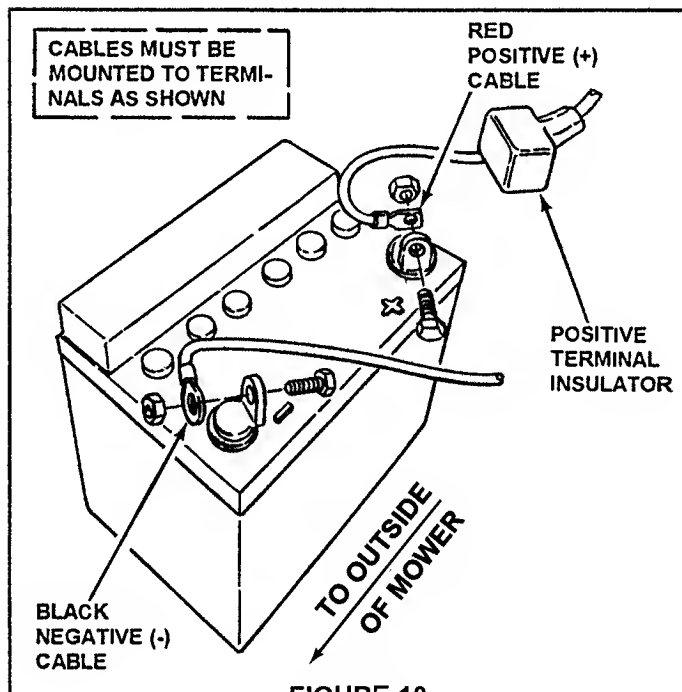

FIGURE 10
- Battery cables **MUST BE SECURED TO BATTERY TERMINALS** as shown in Figure 10, using the 1/4" screws and lock-nuts from the hardware bag.
- Place the positive (+) terminal insulator over positive terminal and cable. Refer to Figure 10.